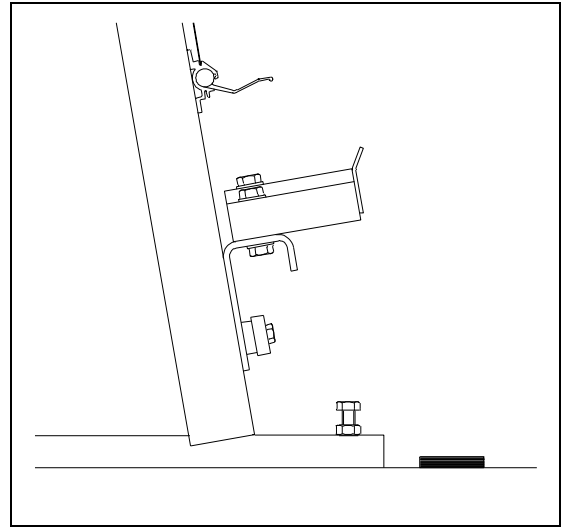

Figure 6
- 3 Insert the adjusting plates in the profiles. (Figure 6).